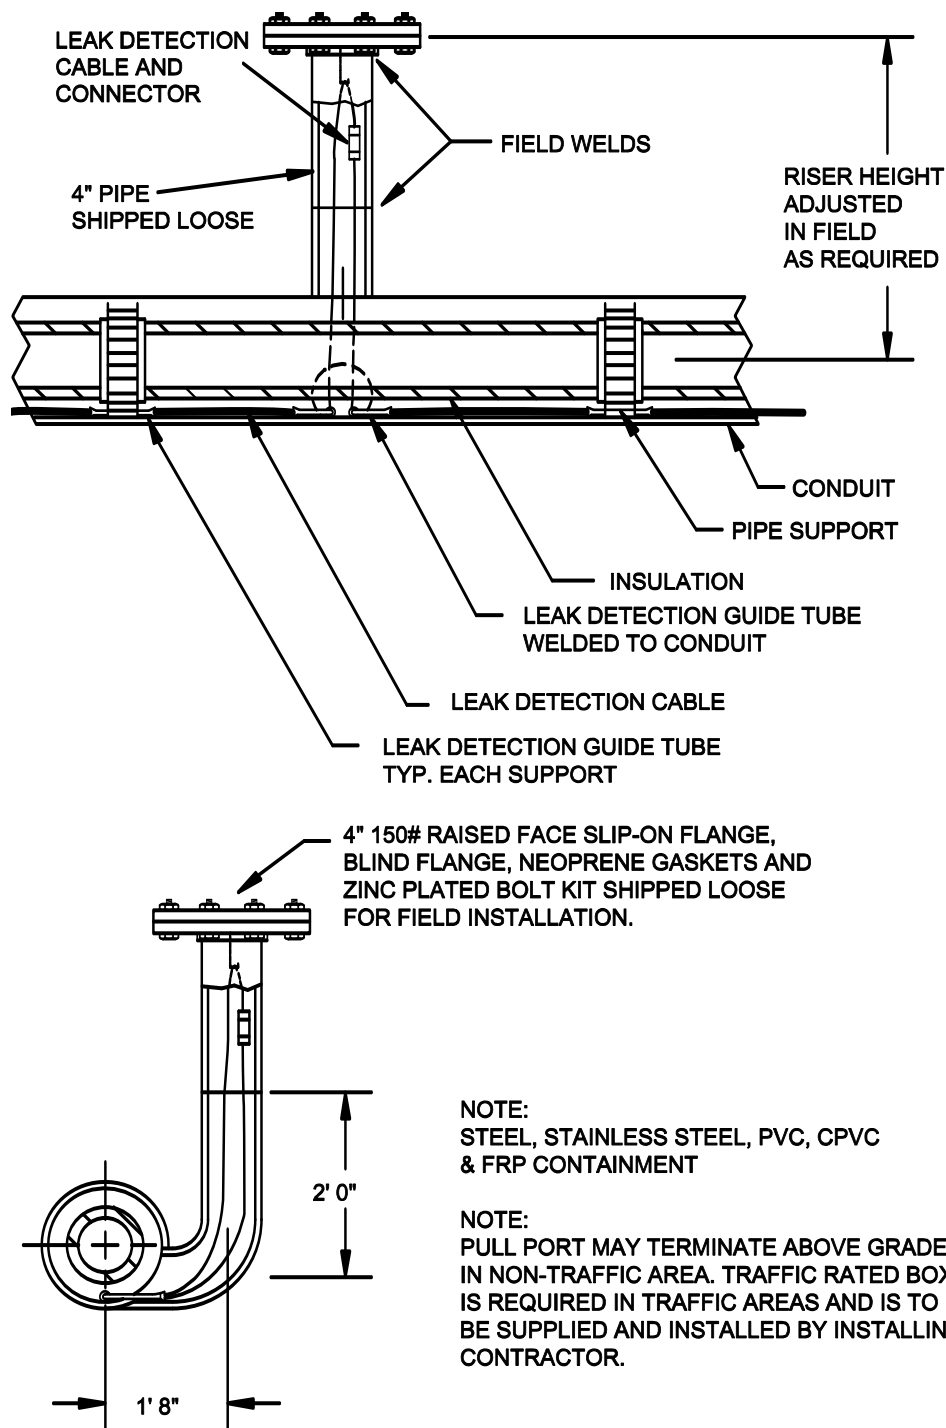

Figure 8
3. Pull point designs should be selected not only on the basis of accessibility during installation, but potential future cable replacement. When future cable replacement is a consideration, it is recommended that underground installations have watertight junction boxes or secondary contained access points installed at grade or in vaults (see Figure 8). **Caution: Pulling points often become**